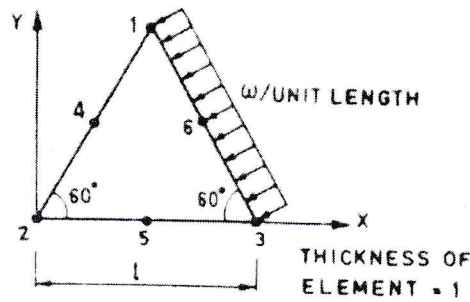

Figure 4
5. Find the consistent loads in x and y directions at the nodes 1- 6- 3 of the LST shown in figure 4. A uniform load of intensity w / unit length is acting normal to the edge containing the nodes 1- 6- 3. Assume unit thickness for the element. [15]